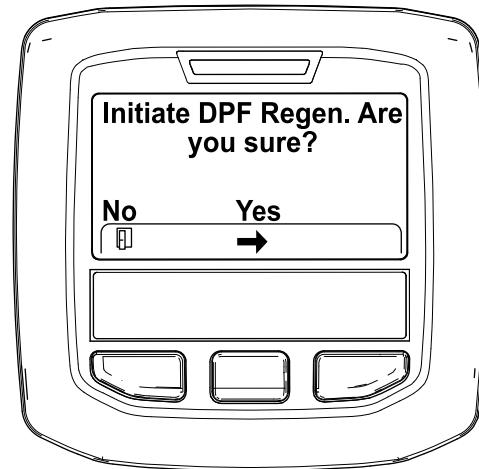

Figure 47
- When the "Initiate DPF Regen. Are you sure?" message displays, press the center button (Figure 47).